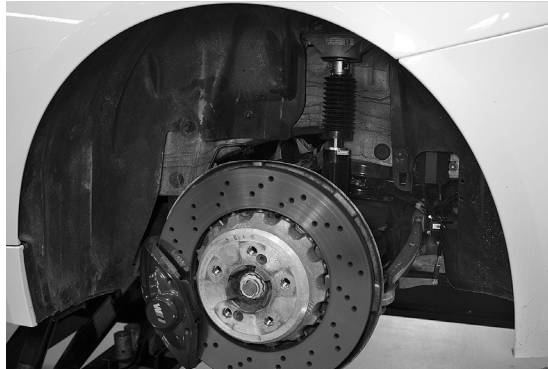

Fig. 2
1. Raise the vehicle with a jack at the approved lifting points and use jack stands to support the vehicle. Remove the wheel and fender liner (Fig. 2).